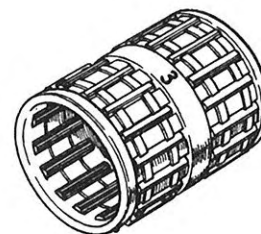

Fig. 14. Marking of needle bearing
2. The needle bearings are divided into five classes: 1, 3, 5, 7 and 9, see Fig. 14, and number 9 has the smallest needle diameter.